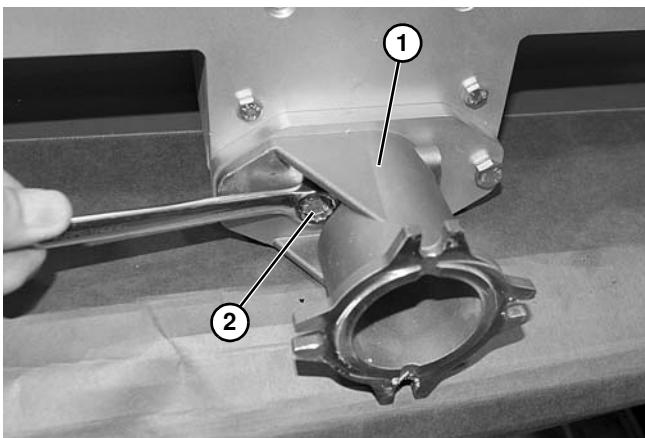
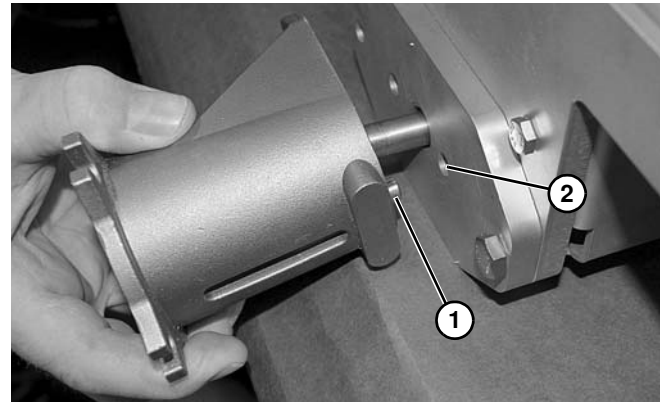

Figure 16
Figure 17
- Install mounting bracket (Figure 16, item 1) onto mid drive module with screw (Figure 16, item 2), making sure the stud (Figure 17, item 1) on the back of the mounting bracket seats into the notch in the adapter plate (Figure 17, item 2).